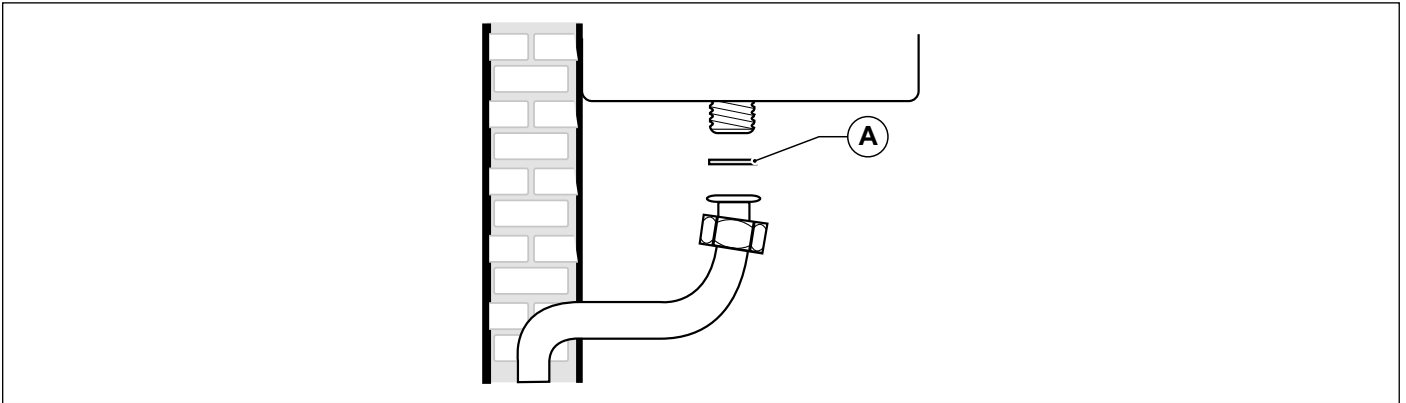

Fig. 23 Connection to gas mains
When connecting the boiler to gas supply network, it is **COMPULSORY** to install an appropriately sized gasket (A) made from suitable material (see Fig. 23 Connection to gas mains).